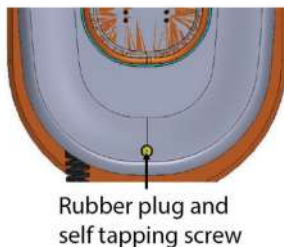

Figure 53
- On the Base Unit assembly, remove the rubber plug at the Bottom screw location and then remove the KA30x25 self tapping pan head screw using phillips screw driver as shown in Figure 53 .